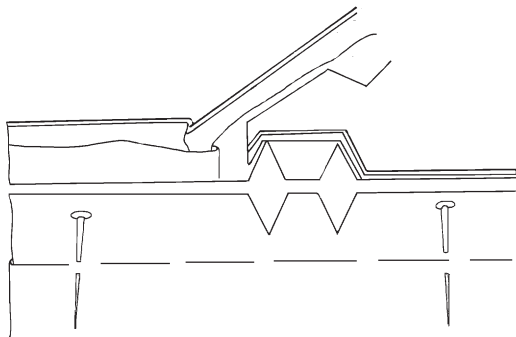

Fig. 6-7
2. Cut the notches outward, not inward. If there are two or three notches together, cut them across the top, as one long notch. (Fig. 6-7)